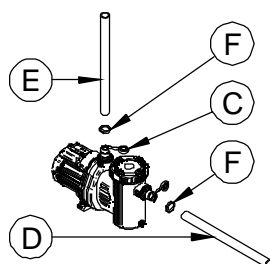

Fig. 24
3. Apply some turns of the supplied teflon around the rubber holders (Fig. 24, # C; *hydraulic parts*) to ensure the pipe is sealed (*hydraulic parts*) onto the rubber holder.
4. Connect the *inlet* pipe (*hydraulic part*) to the IN rubber holder (Fig. 24, # D) and the outlet pipe to the OUT rubber holder (Fig. 24, # E). Fix the pipes (*hydraulic part*) with clips (Fig. 24, # F).